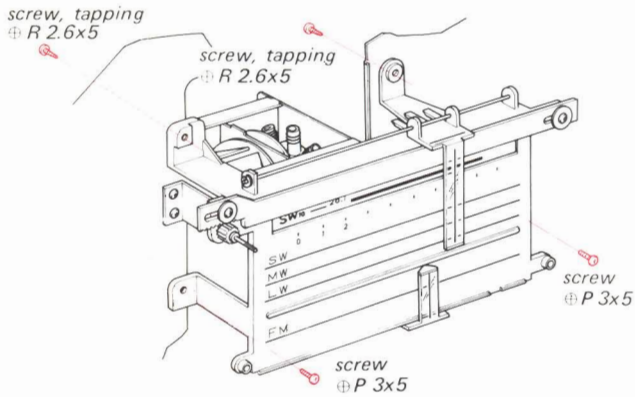

Fig. 2-20
2. Remove the four screws shown in Fig. 2-20 and take out the dial scale.